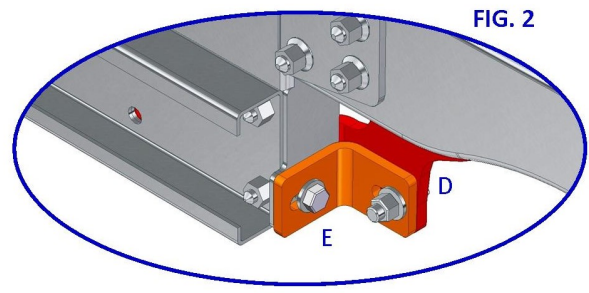

FIG. 2
7. Using Item **H** with Item **L** fix Items **E** to each chassis drop bracket and to Items **C** & **D** (**FIG.1** O/S Chassis & **FIG.2** N/S Chassis).